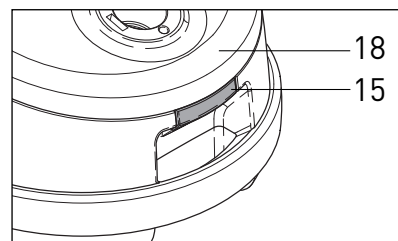
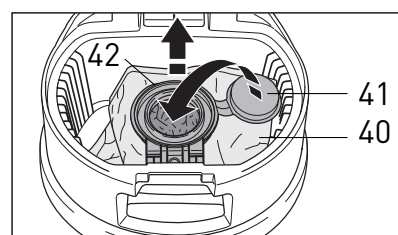

Figure 20
Figure 21
The Kombi nozzle (10) is adjustable for carpet or hard floors. To set for carpet, slide the up arrow button (36) to the right until it clicks into place. The hard floor dusting brush will raise up allowing the head to move over the carpet. To set for hard floors, slide the down arrow button (37) to the left until it clicks into place. The brush will lower to gently sweep your floors. **The slider in Figure 20 is set in the position for hard floors.** Remove the Kombi nozzle from the telescopic tube to clean. Fibers and hair can be pulled out of the bristles manually, or vacuum the bristles with the telescopic tube. The brush strip is removable for cleaning and replacement.
The Turbo nozzle (38) has an air-driven rotating brush for gentle brushing of carpets. The Turbo nozzle can be adjusted for high and low pile carpet. To adjust the head for high pile carpet, push the slider button (39) to the right. For low pile carpet, push the slider button (39) to the left. **The slider in Figure 21 is set in the low pile position.** Remove the Turbo nozzle from the telescopic tube to clean. Remove fibers and hair from the brush manually.
## Changing the Filter Bag - Figures 20, 21, 22, 23 & 24
To change the filter bag (40), switch off the power and unplug the vacuum. Lift the cover release catch (#15, figure 20) and raise the filter bag cover (18). Seal the filter bag with the sealing cap (41). Lift the filter bag out of the holder by tilting the green collar (42) up and pulling it out of the holder as shown in figure 21.